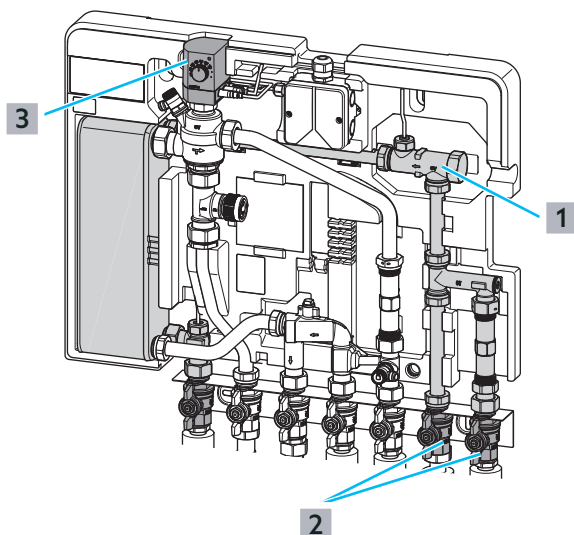

Fig. 37: Inspection and cleaning of the volume flow sensor
- 1 Close the ball valves in the cold water inlet and cold water inlet and cold water outlet ((2) in Fig. 37 on page 39) in the potable water circuit.